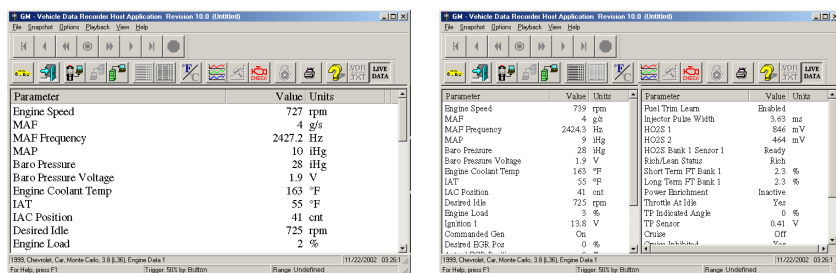

Figure 3.5: Live Data Display, Single Column Mode and Two Column Mode
- To display the lines in one column, select OPTIONS, SINGLE COLUMN from the main menu or click the **Single Column Mode** icon (). See Figure 3.5.
- To display the lines in two columns, select OPTIONS, TWO COLUMN from the main menu or click the **Two Column Mode** icon (). See Figure 3.5.